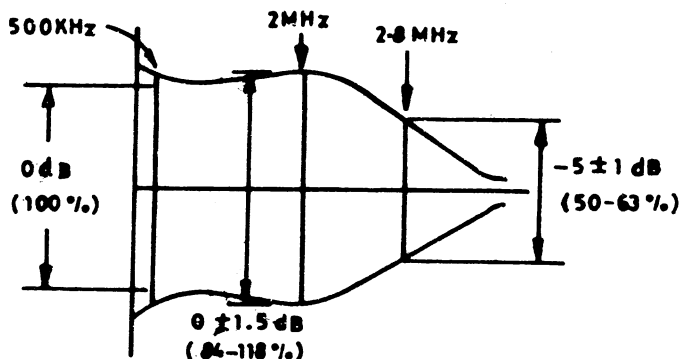

Fig. 11.20
5. Now adjust the head Q adjustment controls R 3042 and R 3043 of channels 1 & 2 so that the waveform becomes as shown in fig. 11.20.